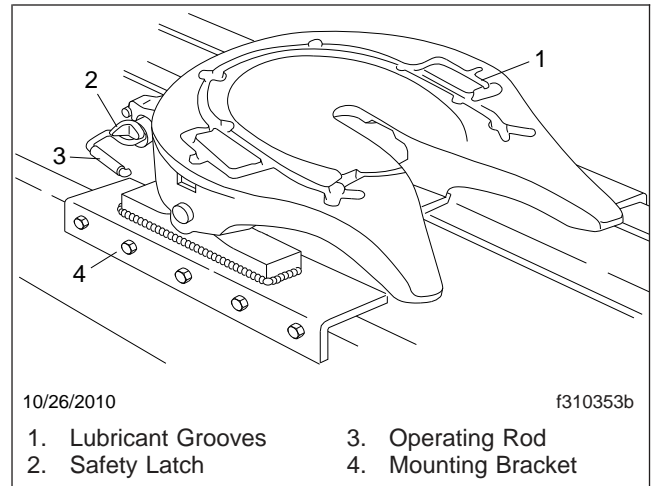
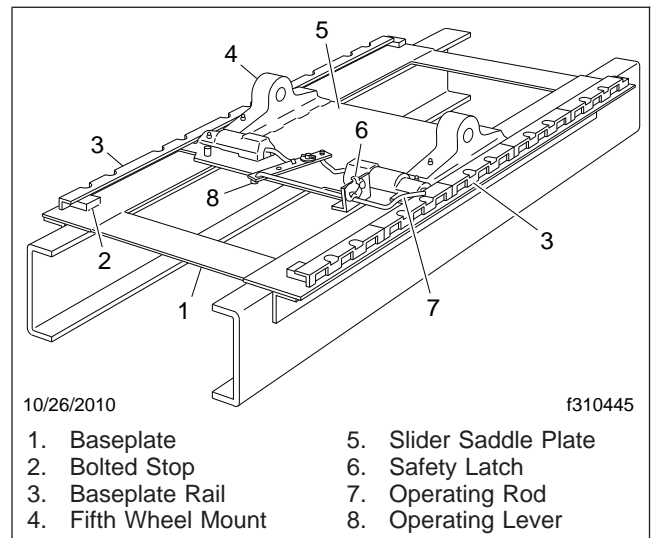

Fig. 10.8, Simplex Stationary Fifth Wheel
Fig. 10.9, Taperloc Slide, Manually Operated Release
The ASF Simplex series fifth wheels are used for pulling trailers having the standard 2-inch (51-mm) diameter kingpin. When installed as a stationary fifth wheel (**Fig. 10.8**), they are bracket-mounted to the tractor frame in a position that best distributes the trailer load over the tractor axles. When used as a sliding fifth wheel (**Fig. 10.9**), they are mounted on the Taperloc® sliding mount (air-operated or manual release).
The manually operated slide contains an operating rod (Fig. 10.9) that unlocks both sides of the plate at the same time.
- 3.2 For manually operated models, raise the safety latch and pull the slide operating rod (**Fig. 10.9**) outward until the shoulder is outside of the operating rod support, then lower the operating rod as far as it will go.